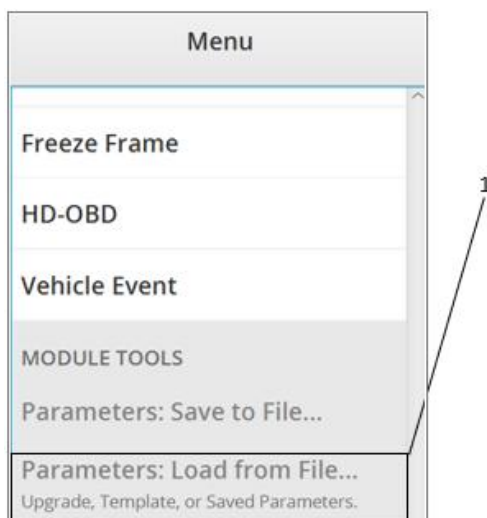

Figure 2. SDS Menu Tab
11. Click **Menu** select Parameters/Load from File (figure 2, Item 1)